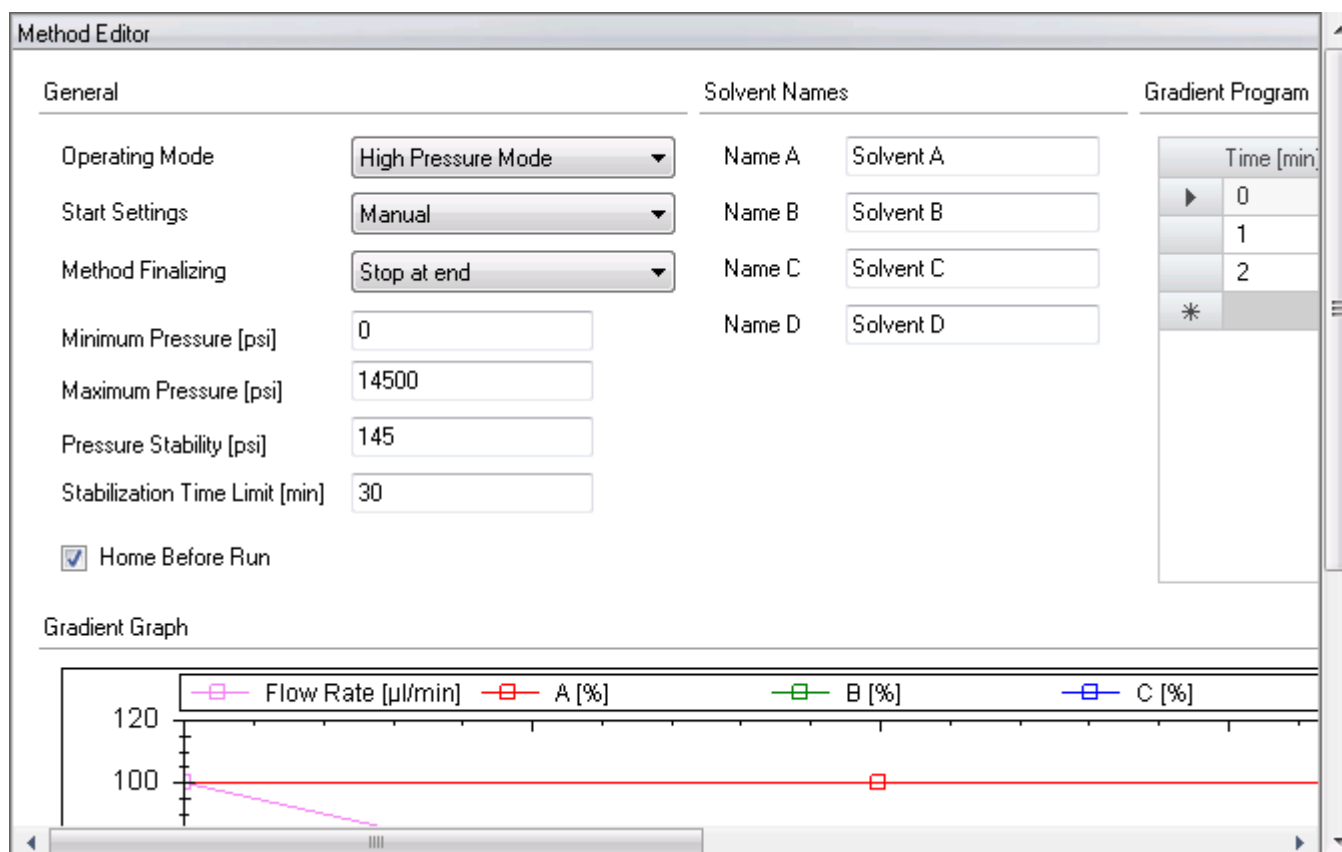

Figure 6-87. Accela LC pump settings
4. Click  **Accela LC Pump**, see Figure 6-87.